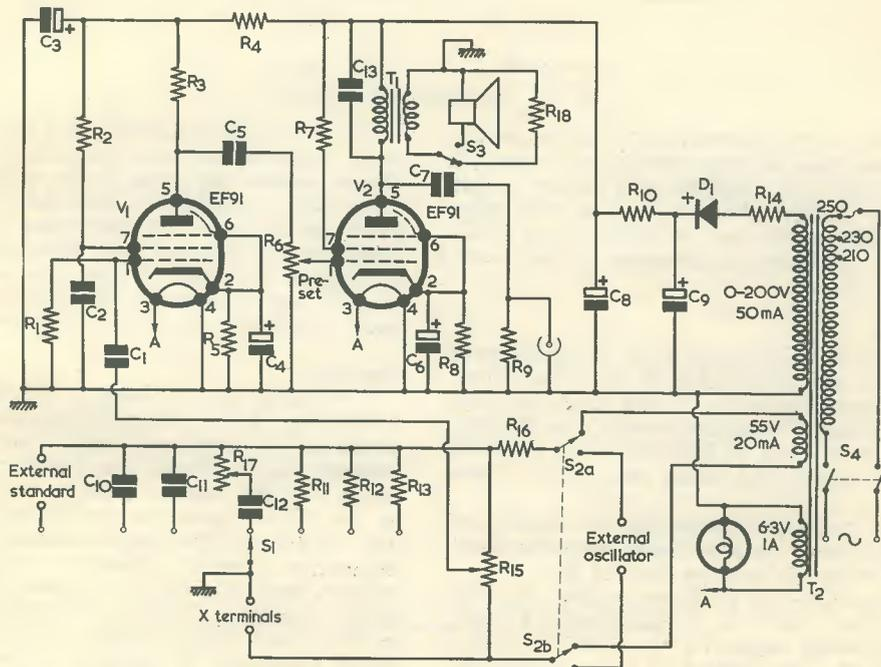

Fig. 21. The circuit diagram of the complete bridge instrument. The ranges switched in by  $S_1$  were detailed in Part 1 of this series
**T**HIS MONTH, THE CONSTRUCTION OF A COMPLETE bridge measuring instrument will be described. The circuit diagram is shown in Fig. 21.